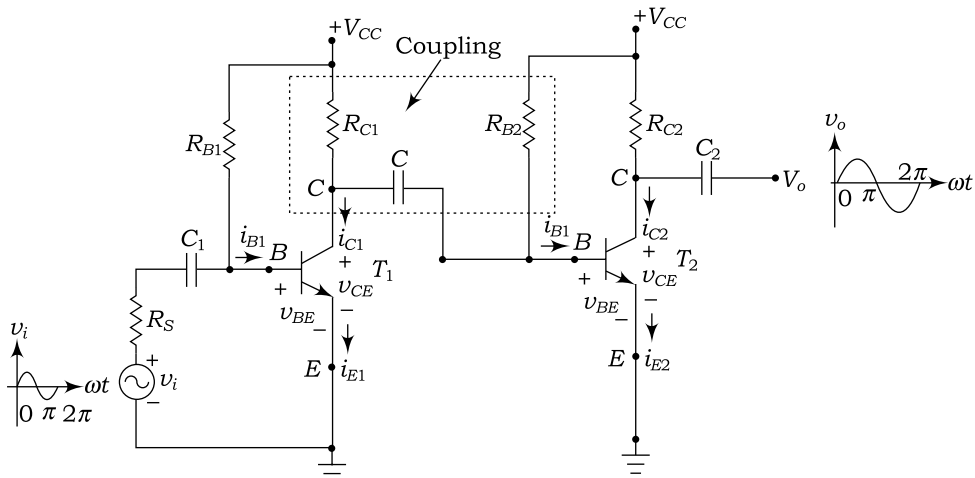
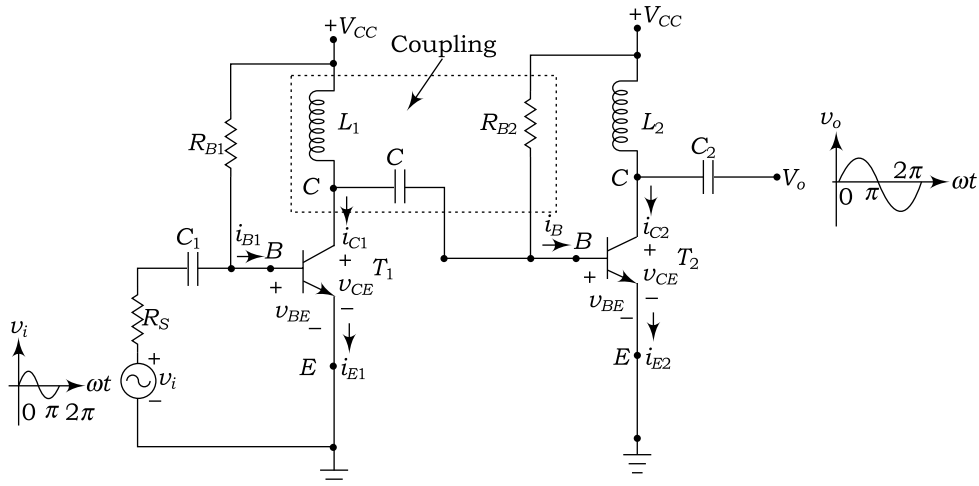

Fig. 3.81 Resistance capacitance coupling
Fig. 3.82 Impedance coupling
This coupling scheme is the most commonly used as it has satisfactory frequency response and is less expensive. In this method, the signal developed across the collector resistance of each stage is coupled through capacitor C into the base of the next stage. Figure 3.81 shows a two-stage RC coupled cascaded amplifier. This circuit consists of two single-stage common-emitter transistor amplifiers. The coupling network is formed through R_C , C and R_B as shown in Fig. 3.81. The cascaded amplifier stages can amplify the input signal and the overall gain of the amplifier is the product of individual stage gains.
When the collector resistance R_C of Fig. 3.81 is replaced by an inductor (L), we obtain impedance coupling amplifier as depicted in Fig. 3.82. If the frequency increases, the value of inductive reactance moves towards infinity and each inductor appears as open circuit. Therefore, inductors can pass dc signals but block ac signals.